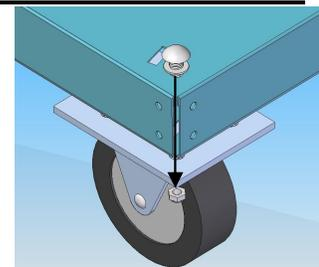

Fig 4.1
- Repeat this step 4 times per Caster on all 4 Caster of the Assembly as seen on Fig 4.1.